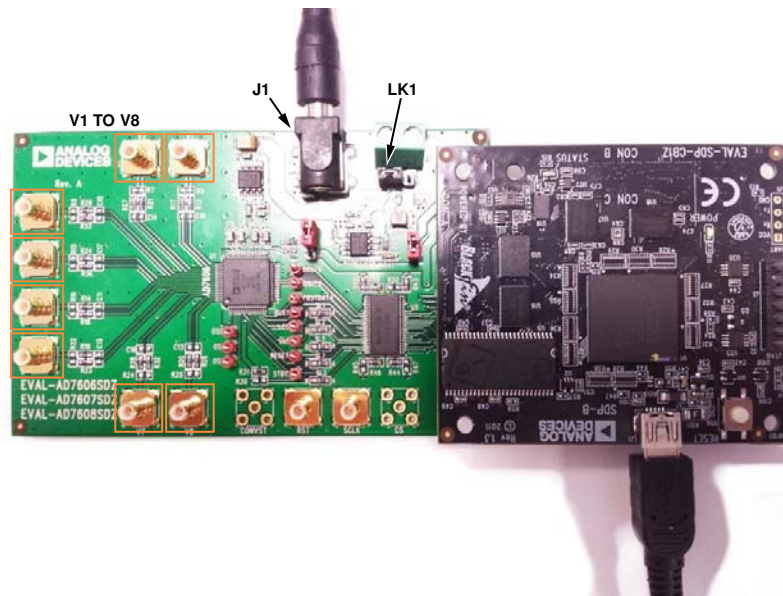

Figure 1. Evaluation Board (Left) Connected to the SDP Board (Right)
3. Connect the EVAL-SDP-CB1Z SDP board to the evaluation board as shown in Figure 1. Screw the EVAL-SDP-CB1Z SDP board and EVAL-AD7605-4SDZ/EVAL-AD7606SDZ/EVAL-AD7606-6SDZ/EVAL-AD7606-4SDZ/EVAL-AD7607SDZ/EVAL-AD7608SDZ evaluation board together using the enclosed nylon screw/nut kit to ensure the boards connect firmly together.
The EVAL-AD7606SDZ evaluation board is supplied with the AD7606 mounted at U1 (see Figure 1). The AD7606 is an 8-channel data acquisition system (DAS) with a simultaneous sampling ADC. On this evaluation board external signals can be applied to the V1 to V8 terminal blocks.
The EVAL-AD7607SDZ evaluation board is supplied with the AD7607 mounted at U1 (see Figure 1). The AD7607 is an 8-channel DAS with a simultaneous sampling ADC. On this evaluation board external signals can be applied to the V1 to V8 terminal blocks.
The EVAL-AD7608SDZ evaluation board is supplied with the AD7608 mounted at U1 (see Figure 1). The AD7608 is an 8-channel DAS with a simultaneous sampling ADC. On this evaluation board external signals can be applied to the V1 to V8 terminal blocks.
The EVAL-AD7606-6SDZ evaluation board is supplied with the AD7606-6 mounted at U1 (see Figure 1). The AD7606-6 is a 6-channel DAS with a simultaneous sampling ADC. External signals can be applied to V1, V2, V3, V5, V6, and V7. Input Connectors V5 to V7 route to the AD7606-6 V4 to V6 input channels, respectively.
The EVAL-AD7606-4SDZ evaluation board is supplied with the AD7606-4 mounted at U1 (see Figure 1). The AD7606-4 is a 4-channel DAS with simultaneous sampling ADC. External signals can be applied to V1, V2, V5, and V6. Input Connectors V5 and V6 route to the AD7606-4 V3 and V4 input channels, respectively.
The EVAL-AD7605-4SDZ evaluation board is supplied with the AD7605-4 mounted at U1 (see Figure 1). The AD7605-4 is a 4-channel DAS with a simultaneous sampling ADC. External signals can be applied to V1, V2, V5, and V6. Input Connectors V5 and V6 route to AD7605-4 V3 and V4 input channels, respectively.